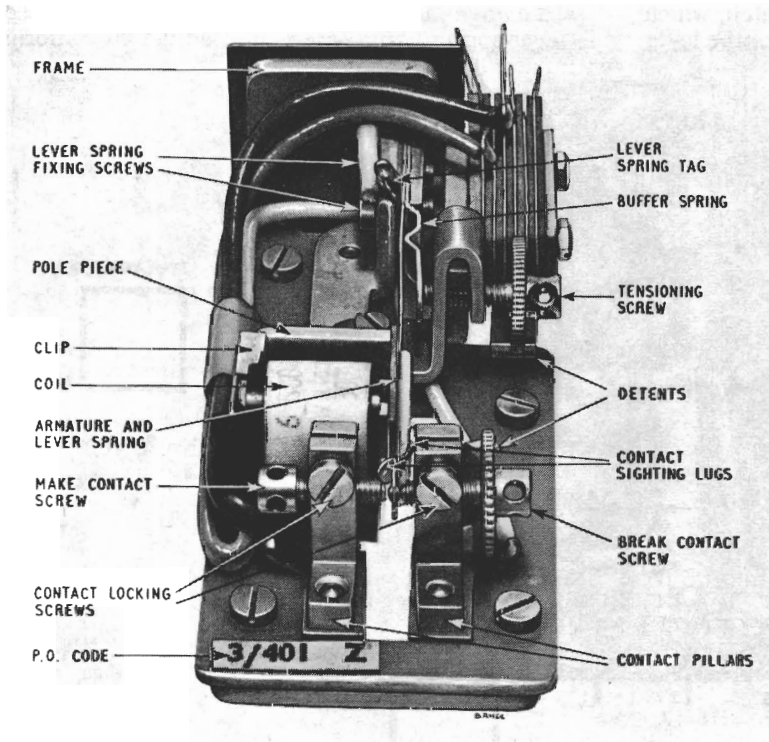

FIG. 1.—RELAY, HIGH-SPEED, No. 3/401
**1. Introduction.**—This Instruction describes the maintenance and adjustment of Relays, High-speed, Nos. 3/401 and 3/402 which are single-contact high-speed relays. These relays mount in single 3000-type drillings and have one change-over contact unit with single platinum contacts. They supersede the Siemens' Relays Nos. 73 and 85 described in B 5159. Typical relays are shown in Figs. 1 and 2.